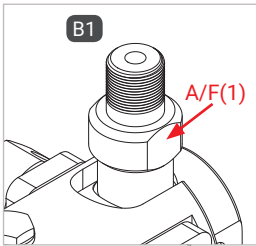

Figure 2
- ▶ When mounting the filling hose, hold an open-ended spanner against the spanner flat A/F(1) (Figure 2).
- ▶ Screw the media inlet "B1" pressure-tight onto the connection port of the filling hose (Figure 2). For the tightening torque, please refer to the table below. **Note:** For NPT thread, first wrap Teflon tape round the tapered screw fitting (1.5 layers). Screw the fitting finger-tight into the port and install it in accordance with the information in the table below.